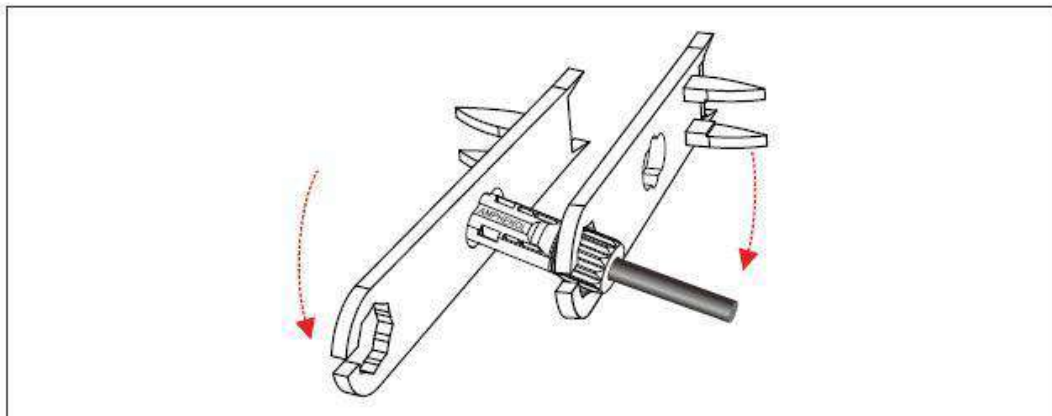

Figure 5.14 Locking a nut
Step 4 Tighten the locking nuts on the positive and negative connectors using a removal wrench, as shown in Figure 5.14.